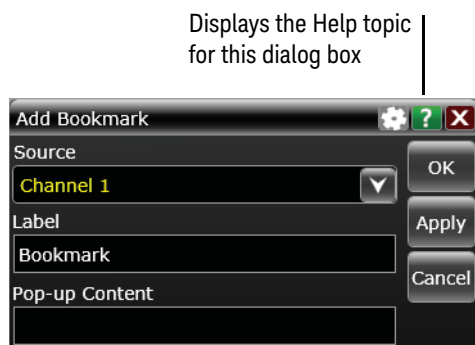

Figure 19 Help button for dialog box Help
- Click the question mark near the top right corner of a dialog box to open the help topic for that dialog box (**Figure 19**).